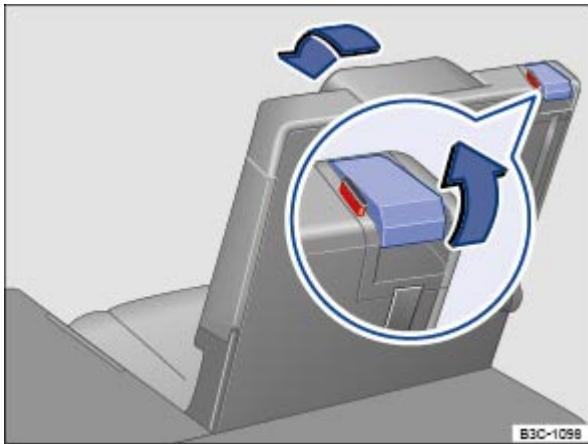

Fig. 78 In the third row: Lever to release the third row seat backrest.
- A red indicator on the release lever ⇒ Fig. 78 shows that the backrest is not securely latched in the upright position. The red indicator is not visible when the backrest is securely latched.
- Pull the release lever \Rightarrow Fig. 78 completely upwards to unlock the third row seat backrest.
- When the backrest is securely latched, the red indicator on the release lever \Rightarrow Fig. 78 will no longer be visible.
- A red indicator on the release lever ⇒ Fig. 78 shows that the backrest is not securely latched in the upright position. The red indicator will not be visible when the backrest is securely latched.